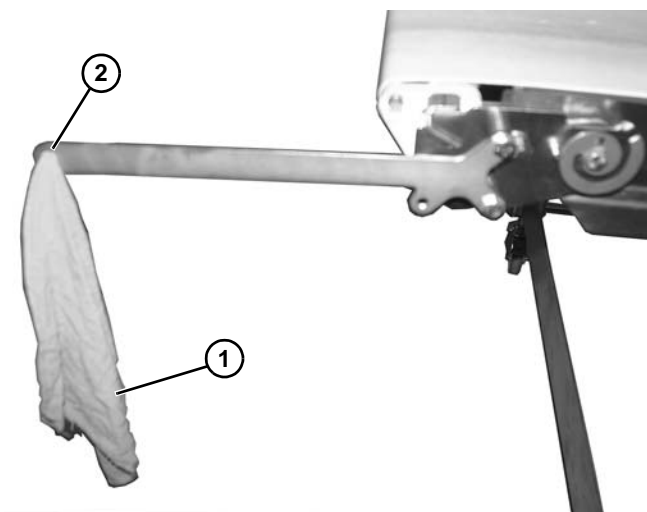

Figure 49
To avoid personal injury, a safety flag (Figure 49, item 1) is recommended to be secured into hole (Figure 49, item 2) in handle, as needed.